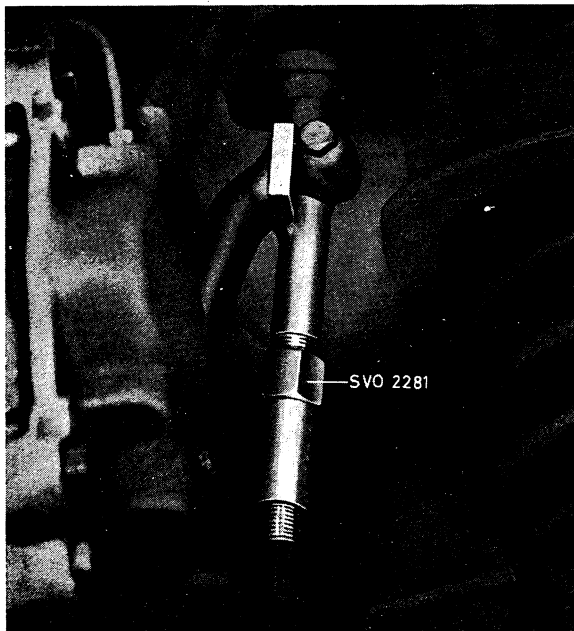

Fig. 6-25. Removing lower ball joint
4. Disconnect the brake hoses from the retainer. Fit tool SVO 2281 to the steering knuckle, see Fig. 6-25. Probably the retainer for the brake lines may have to be bent slightly to the one side. Turn the tool nut until the tool starts to tension. Then turn the nut until the ball joint releases, but max. 1 1/2 turns. If the ball joint is so securely fitted that it cannot be slackened with this turning, try tapping light taps with a hammer and counterhold on the steering knuckle's ball joint attachment.